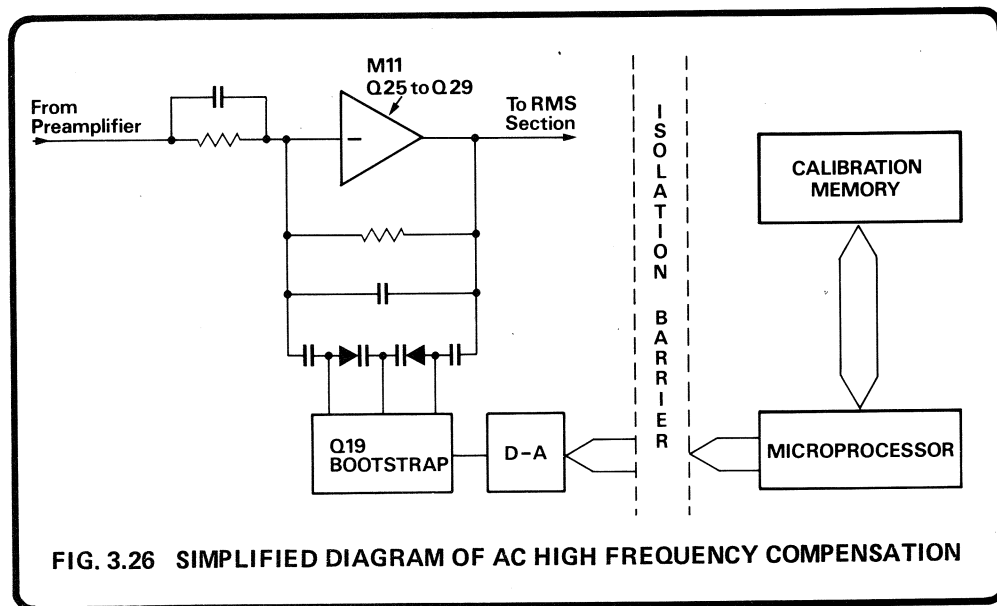

FIG. 3.26 SIMPLIFIED DIAGRAM OF AC HIGH FREQUENCY COMPENSATION
During the calibration cycle, the microprocessor notes and stores the high frequency (HF) error of each range. When AC volts is selected the compensation information for a particular range is recalled by the microprocessor, transferred across the isolation barrier and latched on to M13, M14 (Drawing No. 430299 sheet 5), see Fig. 3.26. As in the case of the Input Current Compensation (Section 3.2.2.5), the output from the latches is applied to a digital-to-analog converter, AN2. The voltage produced is fed to the AC converter via connector J1 pin 11 and applied to varicap D11. The varicap is thus adjusted to give the amplifier chain a flat frequency response.